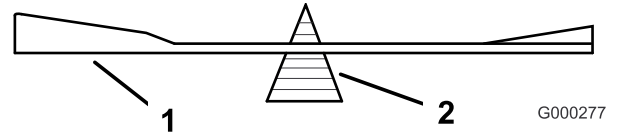

Figure 97
2. Check the balance of the blade by putting it on a blade balancer (Figure 97). If the blade stays in a horizontal